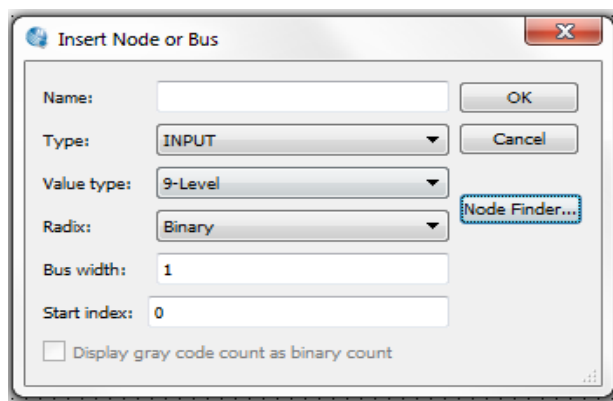

Figure 4.5.4: Search for nodes
5. Click on “Node Finder...” (Figure 4.5.4)